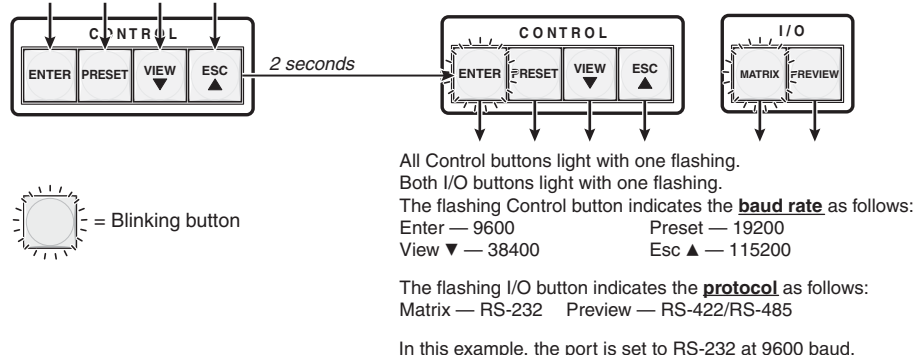

Figure 3-51 — RS-232/RS-422 and baud rate display
1. To enter serial port configuration mode, simultaneously press and **hold all** Control buttons (Enter, Preset, View ▼, and Esc ▲) until all buttons light (approximately 2 seconds) (see figure 3-51, below).